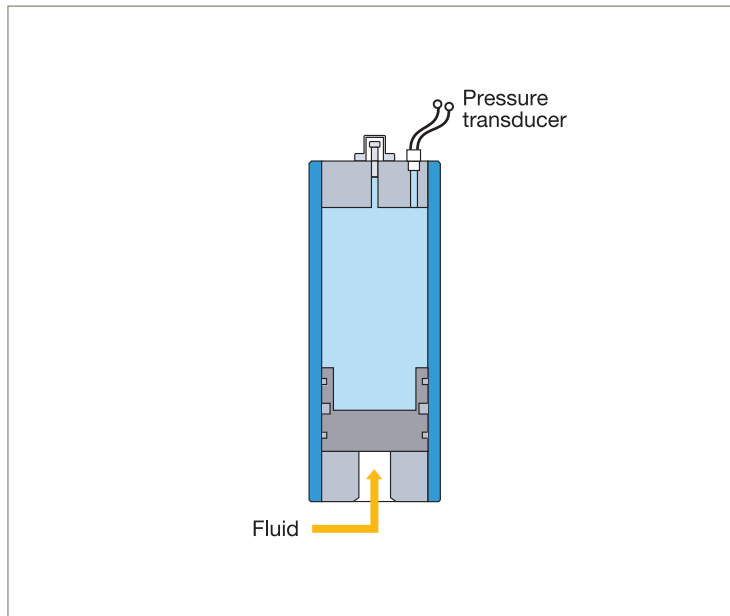

Fig. 14a Pressure transducer measures actual precharge pressure of shut down system
- **With the hydraulic system shut down, cool and accumulator emptied of fluid:** A pressure transducer or gauge located in the gas end cap (**Fig. 14a**) indicates the true precharge pressure.